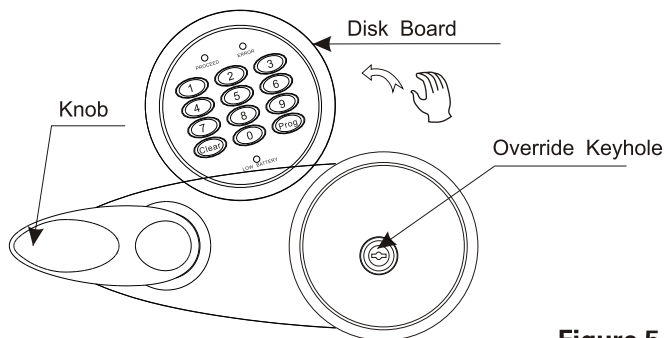

Figure 5
- ☐ In accordance with Fig5 on P.6, turn the disk board on the panel counter-clockwise and remove it, Then the override key hole can be found, insert the override key into its hole and turn it counter-clockwise, and turn down the knob counter-clockwise to open the door.